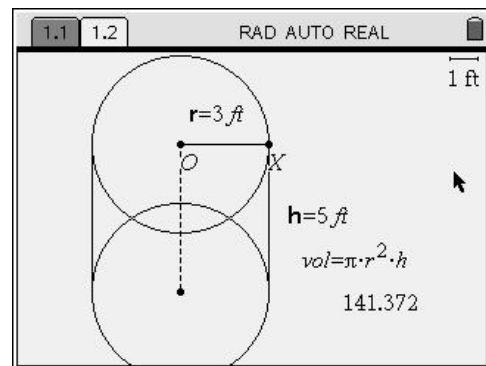

Figure 21
21. Next calculate the volume by pressing MENU 1 7 for Menu, 1:Actions, 7:Calculate. Move the cursor to the formula until it becomes a hand with a pointing finger. Press ENTER . When it says, “select h...”, move the cursor to the measurement for h until it becomes a pointing hand again. Press ENTER . Repeat for the measurement for r. Finally move the result of the volume calculation to an appropriate place on the screen, and press ENTER one last time. It takes 4 ENTER 's to complete the calculation. Press ESC to put the calculation tool away. (Figure 21)